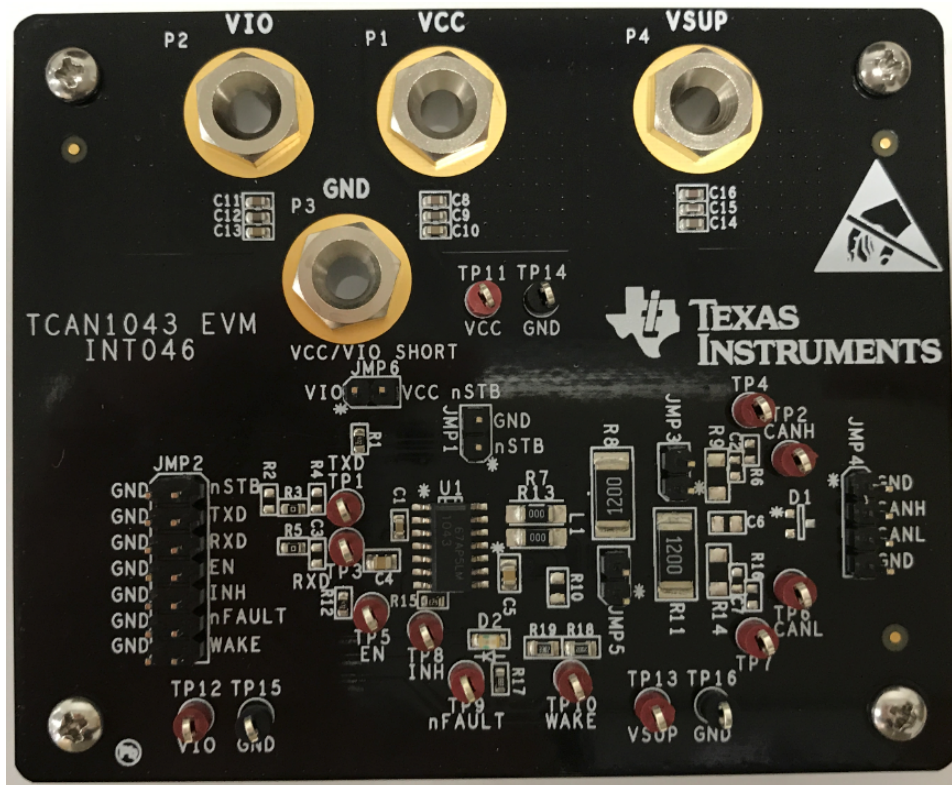

Figure 1. TCAN1043HG-Q1 Evaluation Module (EVM)
The TCAN1043HG-Q1 EVM has simple connections to all necessary pins of the CAN transceiver device, and jumpers where necessary to provide flexibility for device pin and CAN bus configuration. There are test points (loops) for all main points where probing is necessary for evaluation such as GND,  $V_{CC}$ , TXD, RXD, CANH, CANL, EN, nFAULT, and WAKE. The EVM supports many options for CAN bus configuration. It is pre-configured with two 120- $\Omega$  resistors connected on the bus via jumpers: a single resistor is used with the EVM as a terminated line end (CAN is defined for 120- $\Omega$  impedance twisted pair cable) or both resistors in parallel for electrical measurements representing the 60- $\Omega$  load the transceiver detects in a properly-terminated network (that is, 120- $\Omega$  termination resistors at both ends of the cable). If the application requires "split" termination, TVS diodes for protection, or a Common Mode (CM) Choke, the EVM has footprints available for this via customer installation of the desired components. Figure 1 shows the EVM board image.